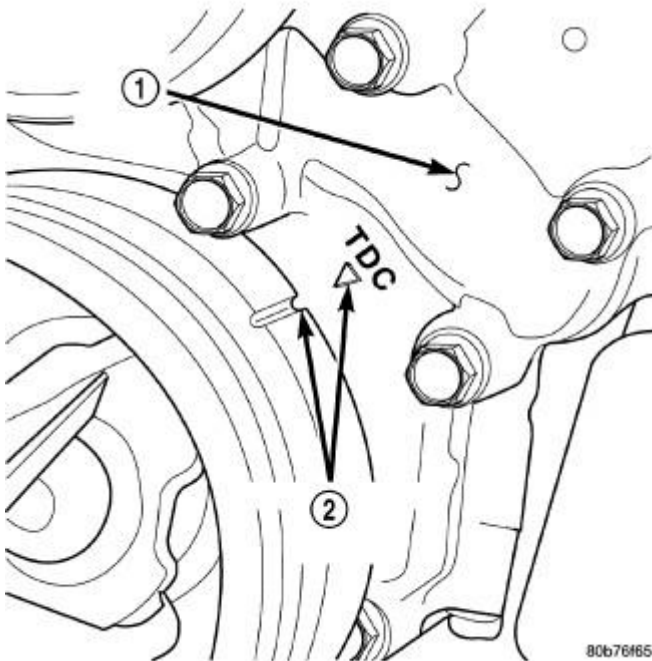

Fig. 21: Timing Chain Cover & Crankshaft Timing Marks
11. Rotate the crankshaft until the damper timing mark is aligned with TDC indicator mark (2). Refer to **Fig. 21**.